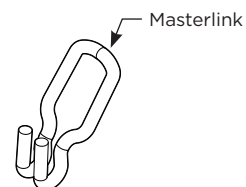

Figure 6
4. Locate the chain master link included in the package, which is used to connect the two ends of the chain. See **Figure 6**.